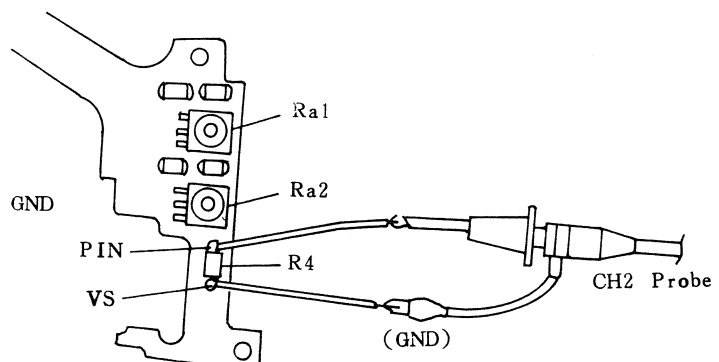

Fig 75
6. Connect the CH 2 probe to R4 (PIN) and the GND of CH 2 probe to R4 (VS). (Fig 75).
3. Take off Tr7. (Fig 75).
4. Connect R3 (560 Ω) directly to GND. (Fig 75).
6. Connect the CH 1 probe to Collector of Tr4. (Fig 75).